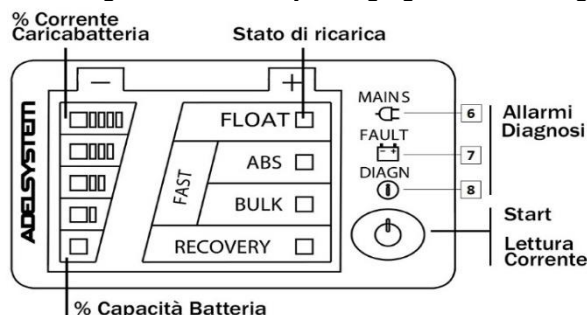

Fig: 1
- The battery charging current can also be observed directly on the external display of the device, by pressing the "Current Reading" button (fig.1)
- If the alarm limit value is exceeded, this is signalled by the Relay and the Fault LED. The blinking diagnosis LED must signal a Blink code with 5 Blinks alternated with a pause. The LEDs can be found both on the CBI product and on the external Display on the container (Fig.1)
- Display DPY353 (Fig.1) external to the device, indicating the following situations: